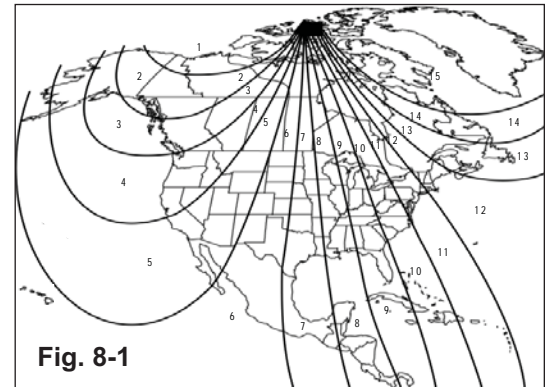

Fig. 8-1
- a) The zone setting is factory preset to Zone 8. Refer to Compass Calibration Zone Map (Fig. 8-1) to find correct compass zone setting for your geographical locations. Use same map from User Guide.